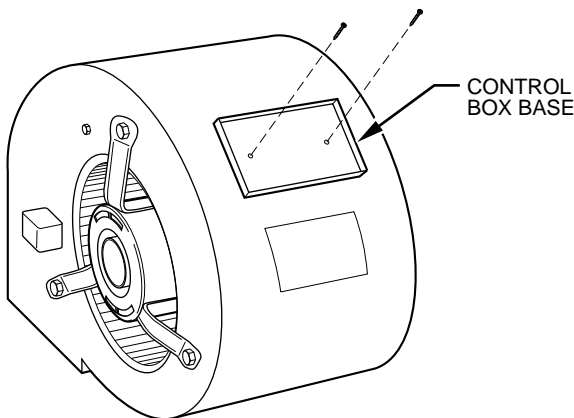

Fig. 4—Installing Control Box Base on Blower Housing
1. Mount control box base on furnace blower casing where male plug will reach receptacle in furnace control panel using the 2 self-tapping screws provided in kit. (See Fig. 4.)